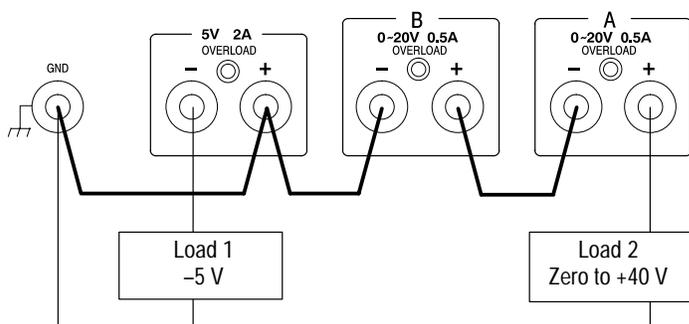

Figure 6: Connecting the Two 0-20 V Supplies in Series to Product 0 to +40 V
Figure 6 shows the power supply connected in series to produce a variable output of 0 + 40 V, ground referenced, and -5 V, ground referenced. The **VOLTAGE** and **CURRENT** controls are in series. The **V** meter reads only one supply at a time and the **mA** meter reads total current in either position. To read the total voltage the readings from the **A** position and **B** position must be added. To set up this configuration, proceed as follows:
1. Turn **POWER** to **OFF**, and connect the outputs as shown in Figure 6.